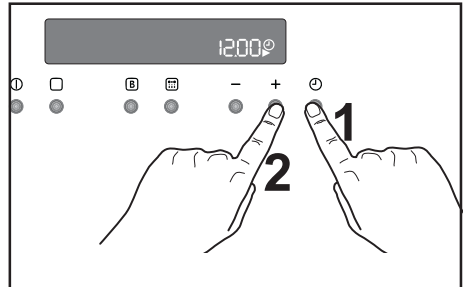

Fig. 1
1) Press button  and, while the symbol  is flashing, set the correct time of day by pressing buttons “-” or “+” (Fig. 1).